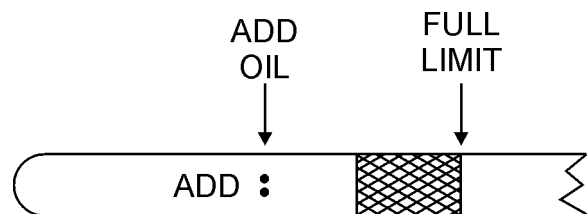

Figure 9. Oil Dipstick
3. If the oil level is low, add oil through the oil filler hole. **DO NOT** overfill. Fill to the normal operating level as shown on the dipstick. Verify that the oil level is maintained between the two notches as shown in Figure 9. Always fill with recommended type oil as listed in Table 5. See Table 2 for engine oil capacity.